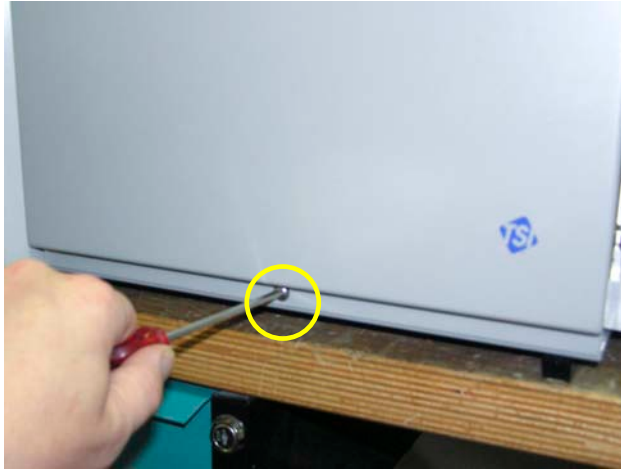

Figure 6-4
2. Unlock the bottom door by removing two screws on top and one screw on the bottom as shown in the Figure 6-3 and Figure 6-4, respectively.